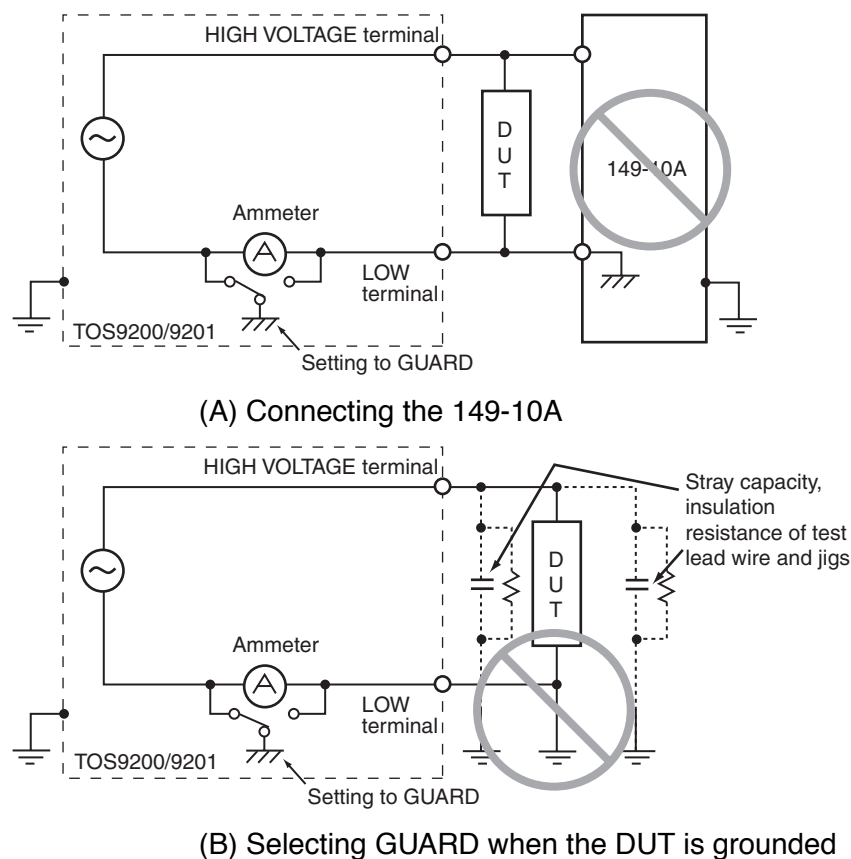

Fig.3-4 Dangerous connection
- If it is not known whether the DUT or jig is grounded, never select GUARD. If GUARD is selected while the DUT is grounded, the ammeter will be short-circuited, thereby disabling measurement and posing a grave danger. See Fig. 3-4 (B).
- If GUARD is selected, do not connect this tester to any measuring instruments or other devices that involve single-side grounding, such as Kikusui's high-voltage digital voltmeter 149-10A or current calibrator TOS1200. Otherwise, the ammeter will be short-circuited. See Fig. 3-4 (A).